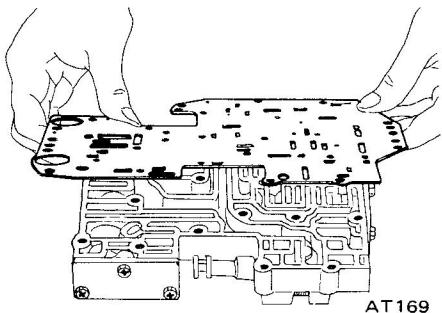

Fig. AT-102 Removing separate plate
2. Remove attaching bolts. With bolts removed, lower valve body, separate plate and upper valve body are free for removal. See Figure AT-102.